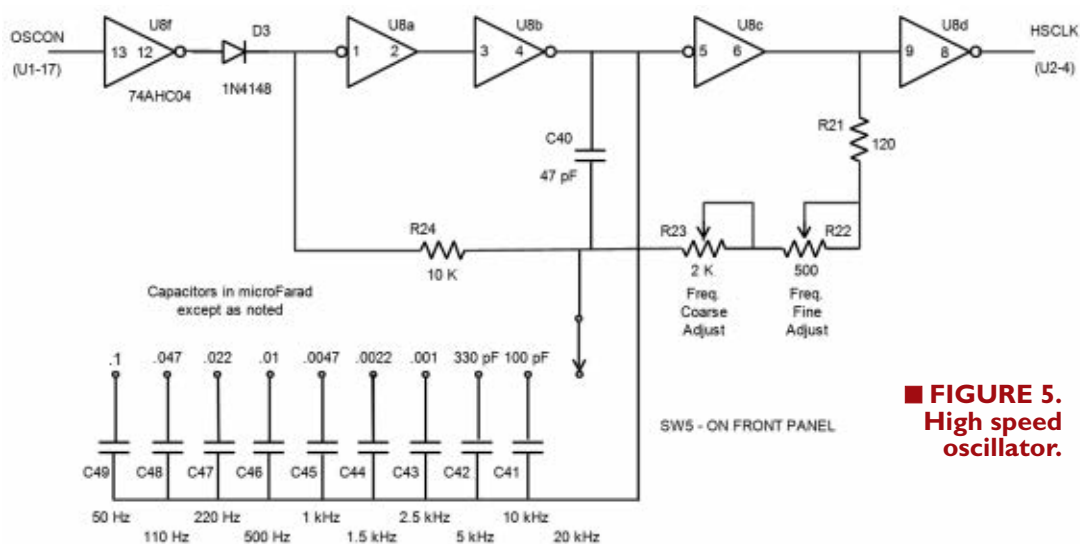

FIGURE 5. High speed oscillator.
Figure 5 is the schematic for the high speed oscillator. It is basically a square wave relaxation oscillator using a 74AHC04 high speed hex inverter that will operate at a maximum frequency of about 15 MHz. The output (HSCLK) drives the eight-bit RAM clock input in the multiplexer '10' position (the normal PFG mode). At 15 MHz, the output of the PFG with 64-bit resolution is 15,000,000/256 or about 58 kHz.
- The Coarse and Fine frequency adjustment (**Figure 5**, R22 and R23).